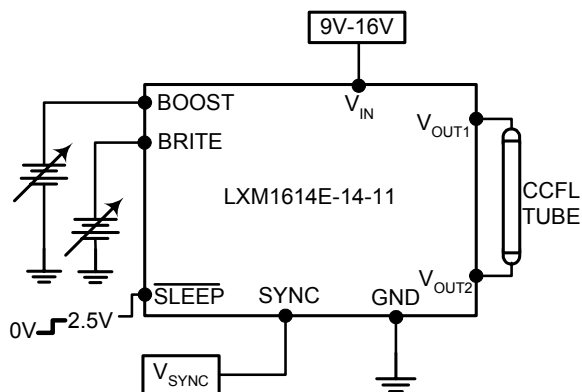
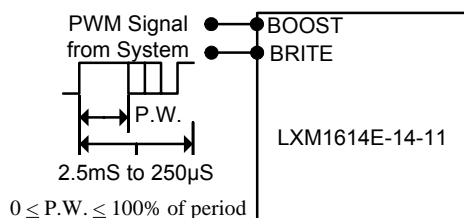

Figure 11 - Brightness Control
Figure 12 - PWM Brightness Control
- The BRITE/BOOST control may be a voltage output DAC, or other voltage source as shown in Figure 11. A 5V Logic Level PWM signal from a micro-controller may also be used as shown in Figure 12.